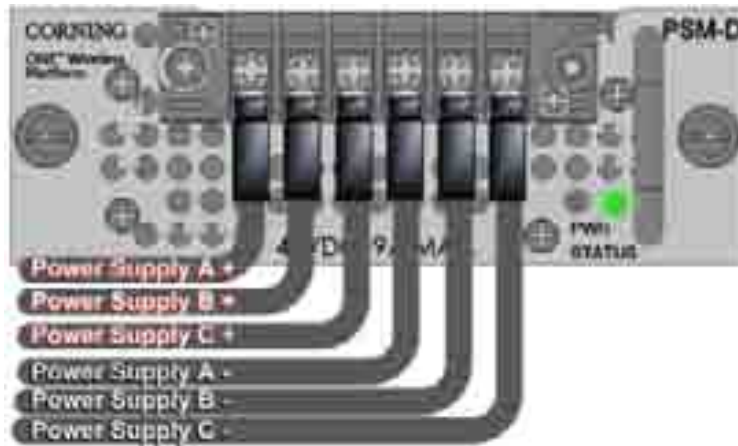

Figure 5-19. Connected DC Wire Pairs and Green Power LED
1. Verify that the Power Status LED on each PSM shows green. See Figure 5-16 (PSM-AC) and Figure 5-19 (PSM-DC).